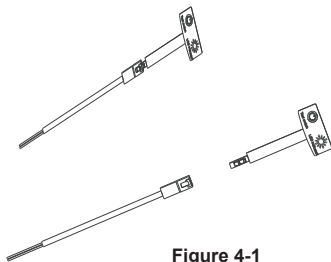

Figure 4-1
1. Unplug the quick connector of the EM Inverter Tape Indicator (Figure 4-1).